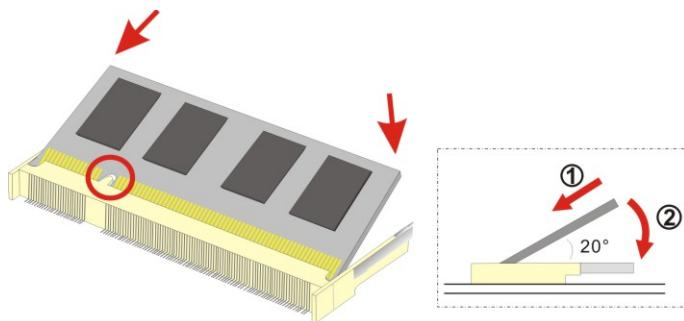

Figure 5-1: SO-DIMM Installation
To install a SO-DIMM into a SO-DIMM socket, please follow the steps below and refer to Figure 5-1.
Step 3: Insert the SO-DIMM. Push the SO-DIMM chip into the socket at an angle. (See Figure 5-1)
Step 4: Open the SO-DIMM socket arms. Gently pull the arms of the SO-DIMM socket out and push the rear of the SO-DIMM down. (See Figure 5-1)